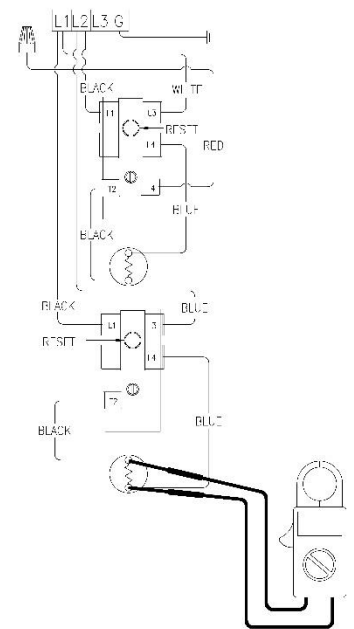

Figure 15
8. Check across lower element terminals (see Figure 15).